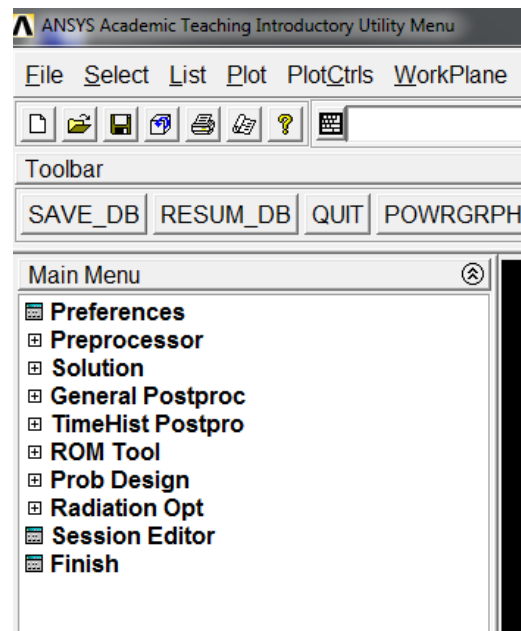

Figure 2: ANSYS Main Menu
- Click Okay on any subsequent user prompts until the following ANSYS Main Menu Screen is reached (Figure 2)